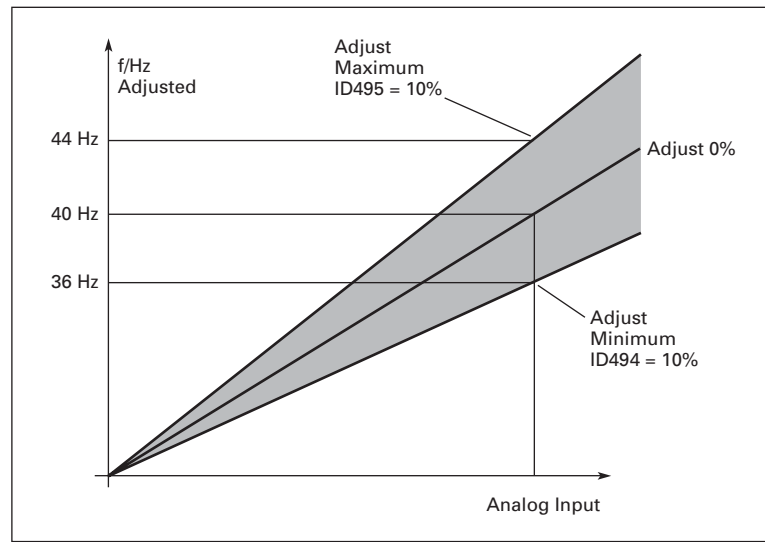

Figure 3-22: Example of Adjust Input
- These parameters define the minimum and maximum of adjusted signals. See **Figure 3-22**.